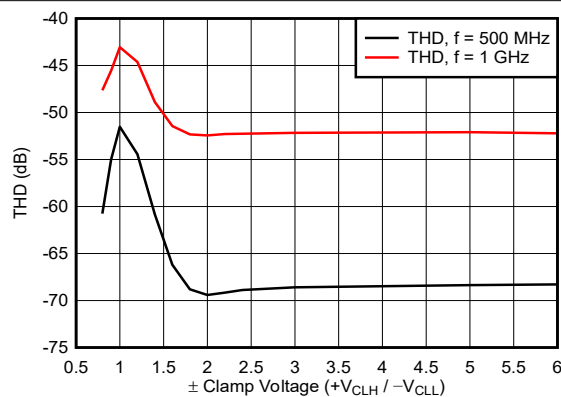

Figure 7-3. THD vs V_{CLH} / V_{CLL} for $V_{OUT} = 1 V_{PP}$
- The output THD of the BUF802 degrades when V_{CLH} and V_{CLL} are set close to the expected V_{OUT} peak value. To prevent signal degradation, maintain at least a 1.5V difference between the expected peak output voltage and the clamp voltage applied at the CLH and CLL pins. Figure 7-3 shows the relation between the absolute clamp voltage value and THD for a 1 V_{PP} output.